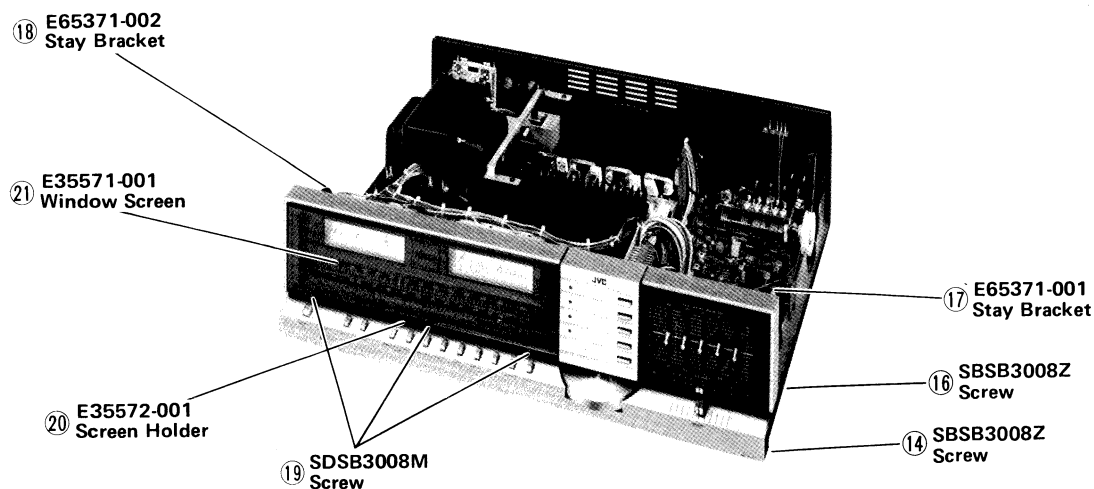

Fig. 5
1. Remove 2 screws (Item No. 14) from the both sides of chassis and remove 3 screws (Item No. 15) from the bottom. See Figs. 5 and 6.